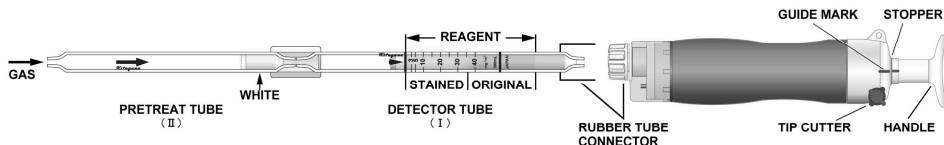

Fig.1
- ① Break both ends of a new detector tube (I) and a pretreat tube (II), and connect each end of the detector tube and pretreat tube with connection tube as shown in Fig.1.
- ② Insert the detector tube into the aspirating pump securely as shown in Fig.1. (Arrow mark shall point to the pump.)
- ③ Align the guide marks on the handle and stopper of the aspirating pump.
- ④ Pull the pump handle at a full stroke until it locks and wait for 1.5 minutes or until the completion of sampling is confirmed with the flow indicator of the pump (See descriptions about the flow indicator in the instruction manual of the pump).
- ⑤ Push back the handle without removing the detector tube from the rubber tube connector, so that air in the pump will be discharged perfectly. Then repeat the step ③-④ twice.
- ⑥ On completion of sampling, read the scale at the maximum point of the stained layer.